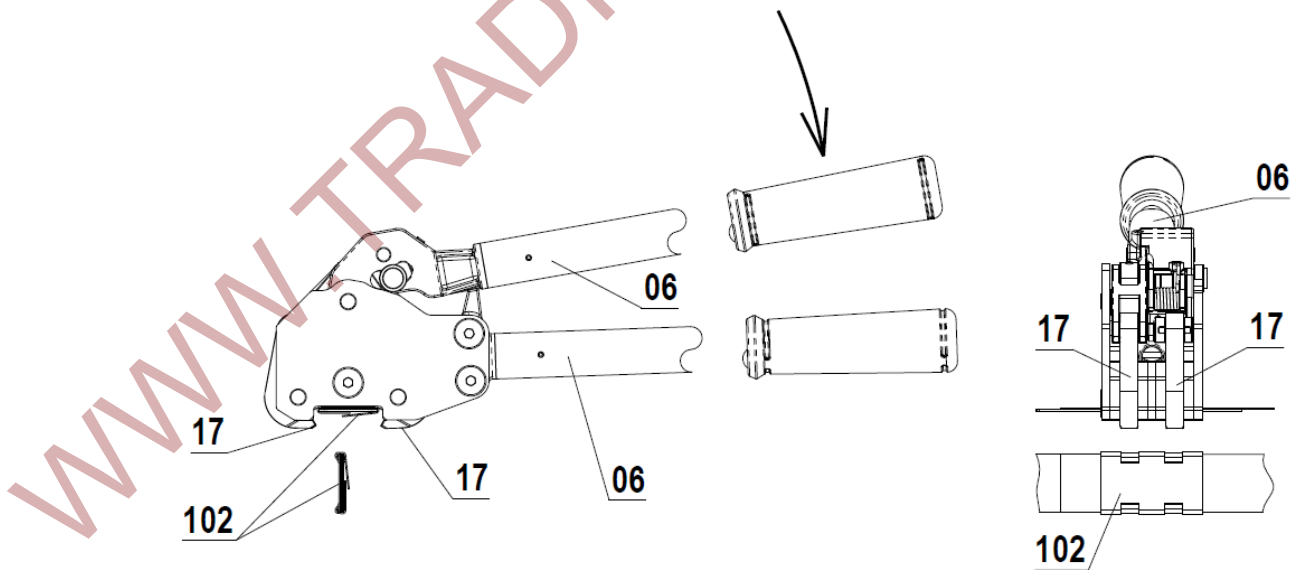

Fig. 4
3. Return the **Upper Handle Lever 06** to the starting position as shown on Fig.4